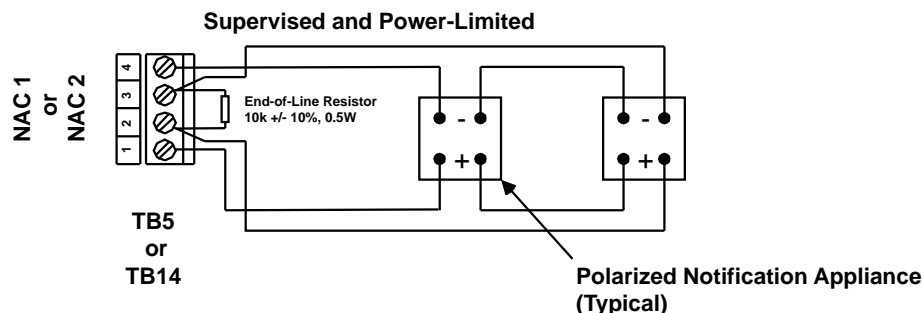

Figure 2-15. Class A Notification-Appliance Circuit
- Class X wiring requires the use of Loop Isolators as shown in Figure 2-15.
Figure 2-15 shows typical wiring for a Class A notification appliance circuit.